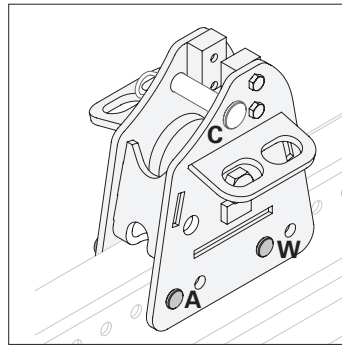

Fig. A10.02a Fixed bearing – with bolt C
1. Place the bearer (36) on the ledger (28).
2. Fit one bolt (36.1) and one cotter pin (36.2) into both A + B. (Fig. A10.02a)